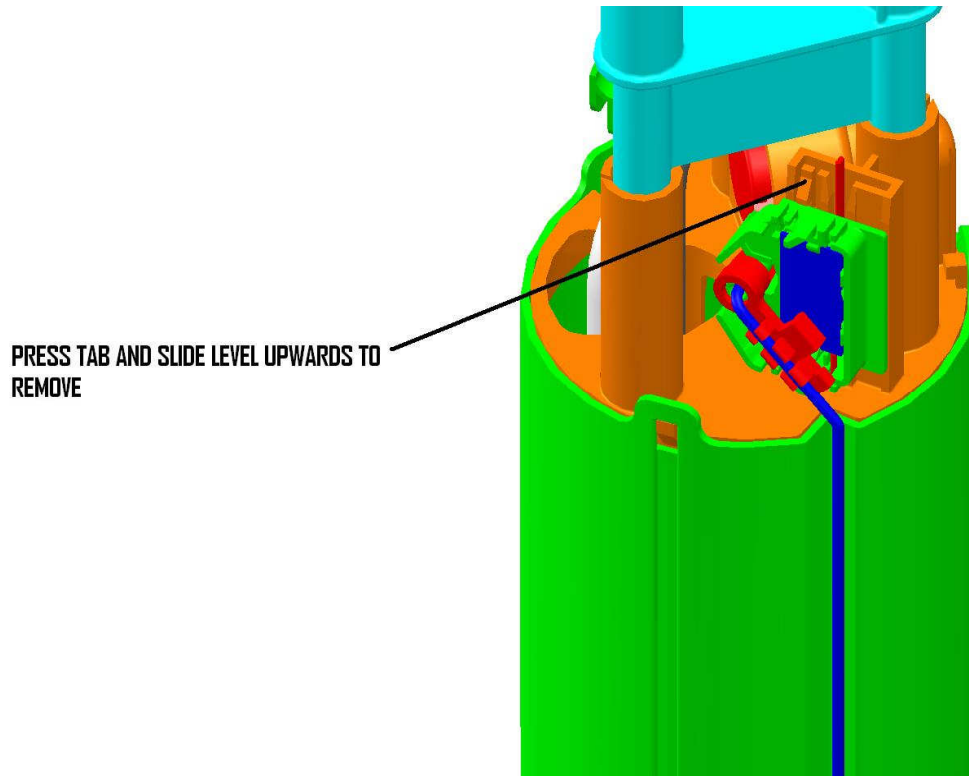

FIGURE 1-8
17. The only part to be reused off of the old fuel pump assembly will be the fuel level unit. Remove it from the assembly by pressing the tab and sliding the level upwards. **FIGURE 1-8**